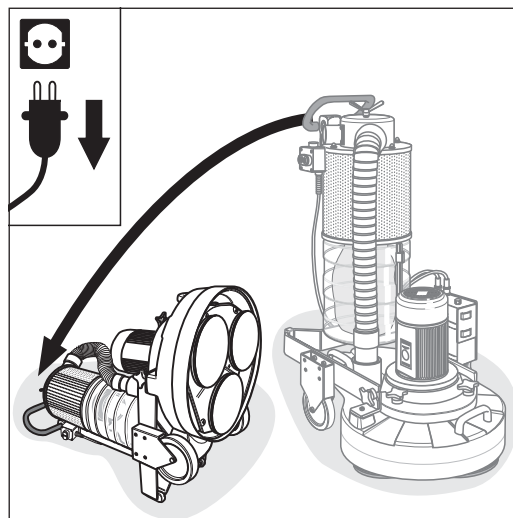
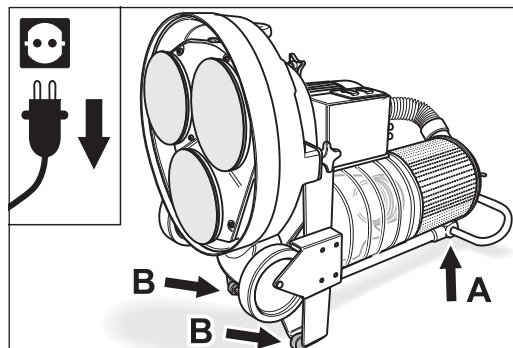

Fig. 5 Carefully tilt the machine backwards.
Fig. 6 Make sure that the machine gets to rest on the guide tube (**A**) and the two protective rubbers (**B**). **Make sure the machine is in a safe position!**
- 3 While holding on to the handle, carefully tilt the machine backwards into a horizontal position (fig. 5). Make sure that the machine gets to rest on the guide tube (fig. 6, **A**) and the two protective rubbers (fig. 6, **B**). **Make sure the machine is in a safe position!** Now the sanding plates are accessible from the front.